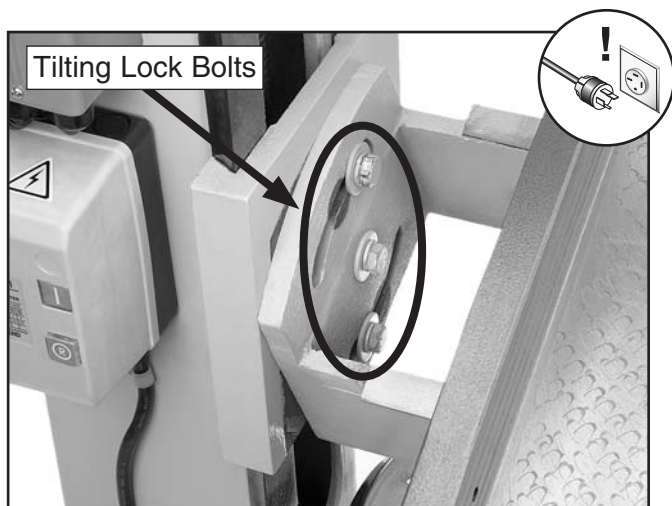

Figure 28. Table tilting lock bolts.
2. Use the cross slide handwheel to move the table all the way forward, then loosen the three tilting lock bolts shown in **Figure 28** until the table can be tilted.